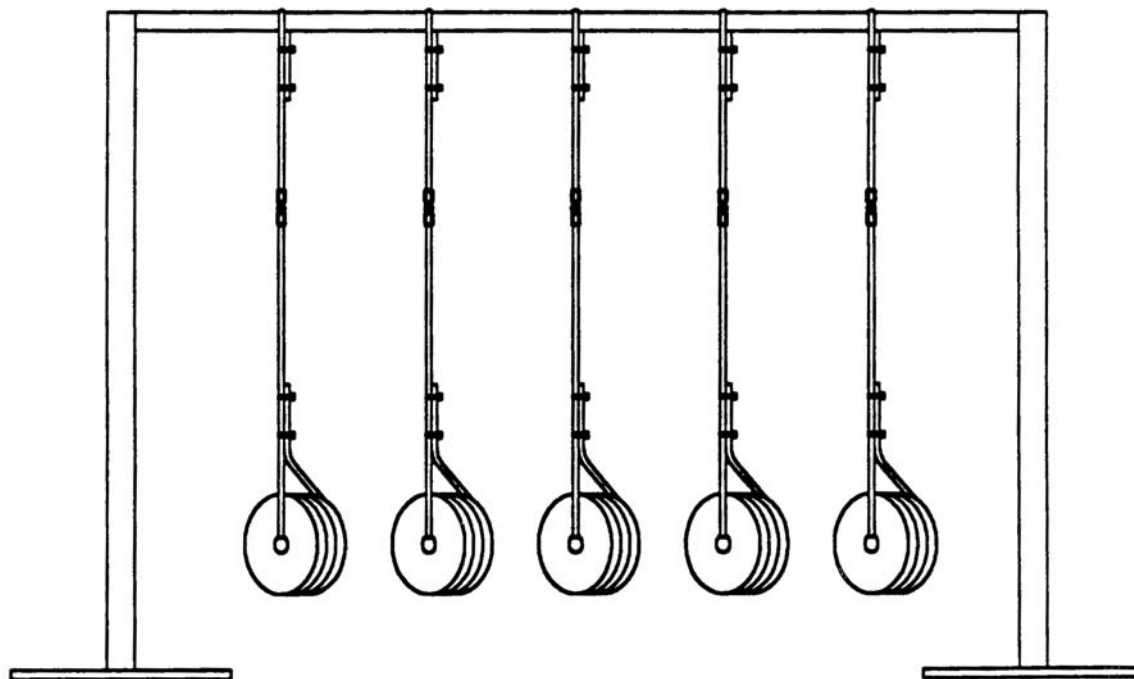

Figure 1 – Typical Support Fixture
- 2.3. A test stand to support the samples under test. See Figure 1.